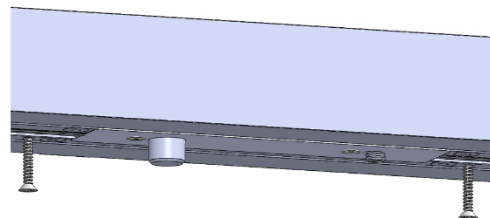

Figure 6:
3. Secure Archetype Head Pivot to header with #10 screw min. 4" long (not by Fleetwood). See Figure 6 for illustration.